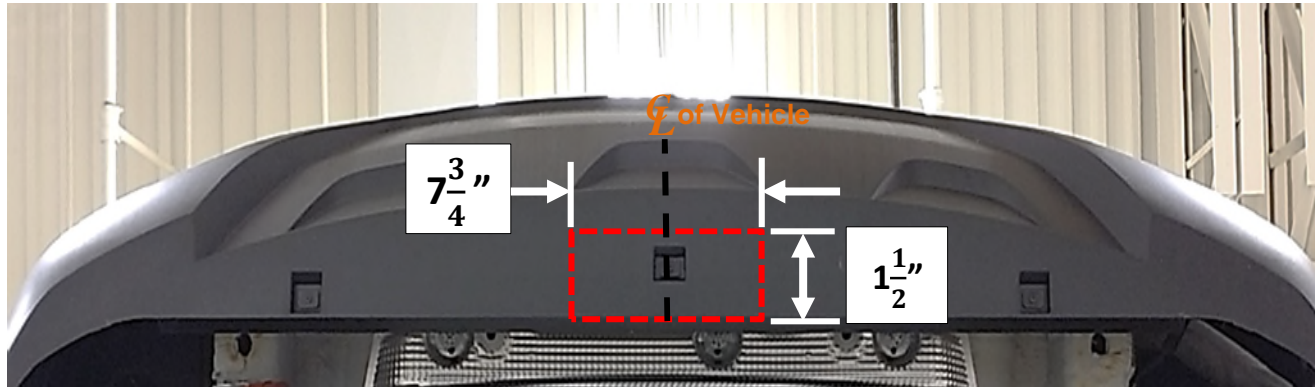

Figure 4
3. **Trim lower fascia** – Using a tape measure, marker, and utility knife, measure, mark, and trim the lower fascia. See Figure 4.